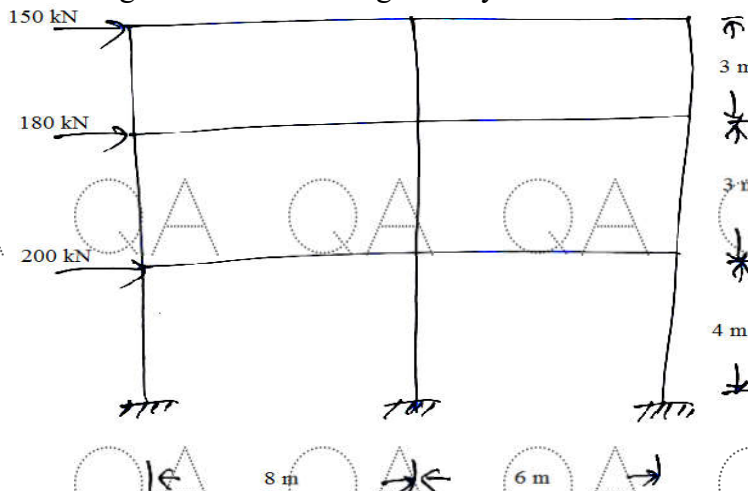

Figure 4
7. Analyze the building frame shown in Figure 4 by Cantilever method. Draw BMD. [10]